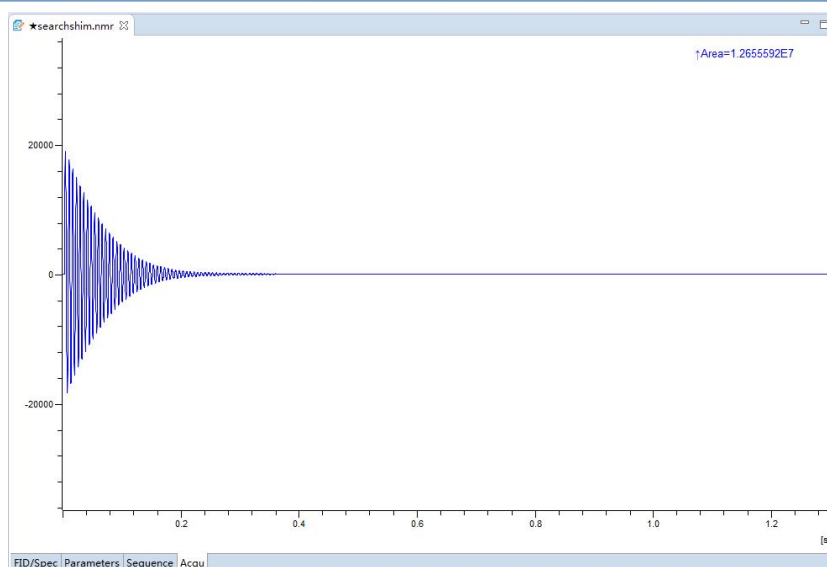

Figure 2.18 Search shimming window
- (2) In the drop-down menu next to **Solvent**, select correct one.
- (3) Click the drop-down menu next to **Evaluate** and select **FIDArea**.
- (4) Select a combination of shim coils in the drop-down menu next to **Simplex**, click **Add** to put into the searching list in **Groups** to immediately start search shim. You can click **Open** button to display the real time result in the searchshim window in workspace (Figure 2.18).